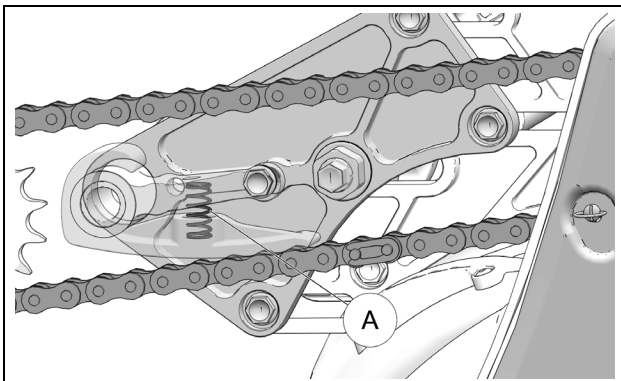

Figure 59
Verify that the Chain guard spring (A) is functional and not damaged. Replace if defective. Figure 59.